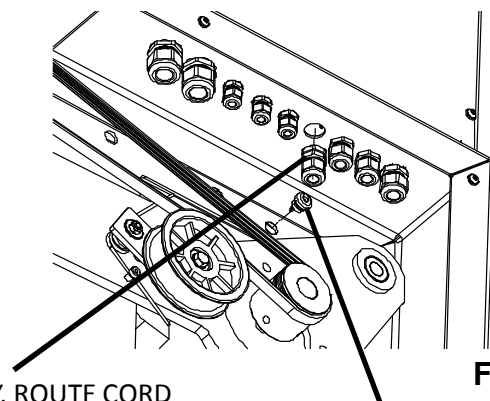

FIG. 6
4. Route the cord through the .625 hole located on the right side of the machine above the grinding motor and secure with strain relief 3707273. See FIG. 6.
5. Remove the .875 Hole Plug from inside of the canopy as shown in FIG. 6 and install Strain Relief 3707009. Put the Receptacle Cord through the strain relief and tighten. See step 7 on the following page for wire connections.